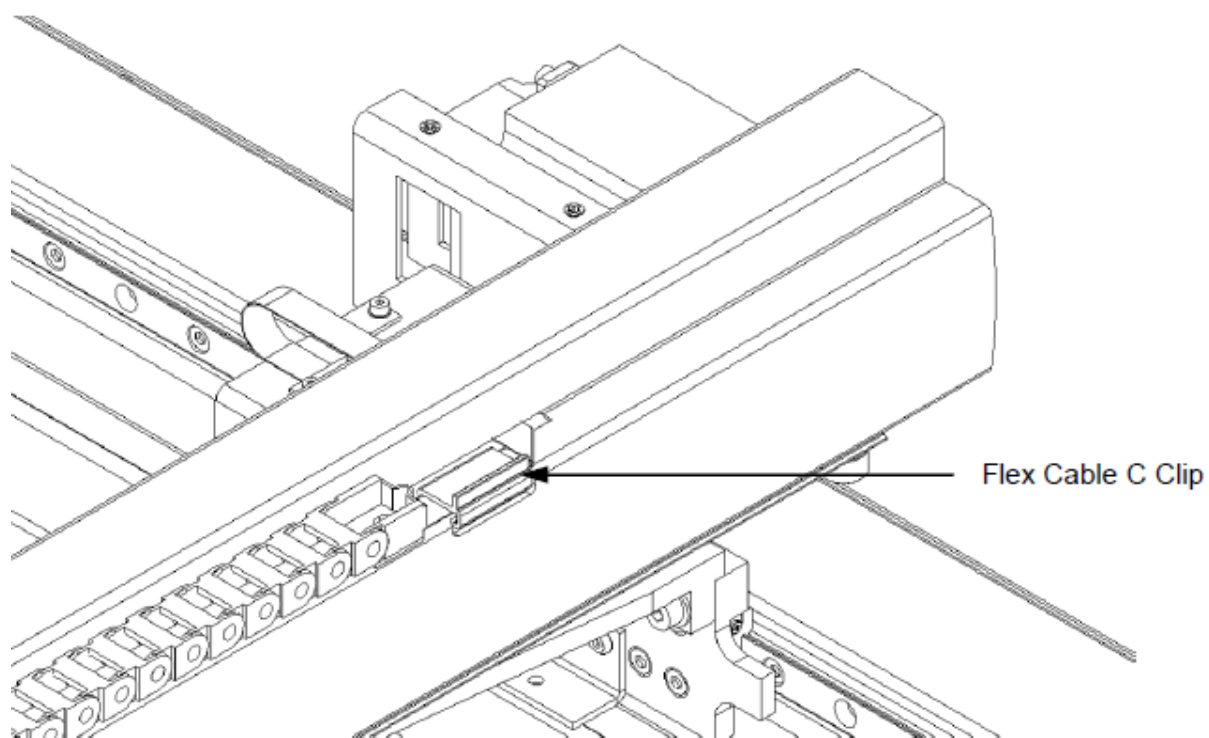

Figure U-4: Flex Cable C Clamp
3. Remove the Flex C Clip (Figure U-4).